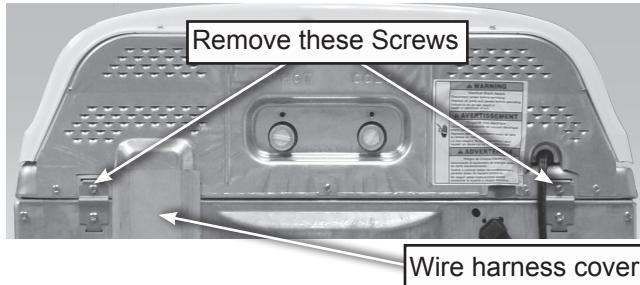

Figure 1
3. a. Remove top screw from each hinge (2), see figure 1.